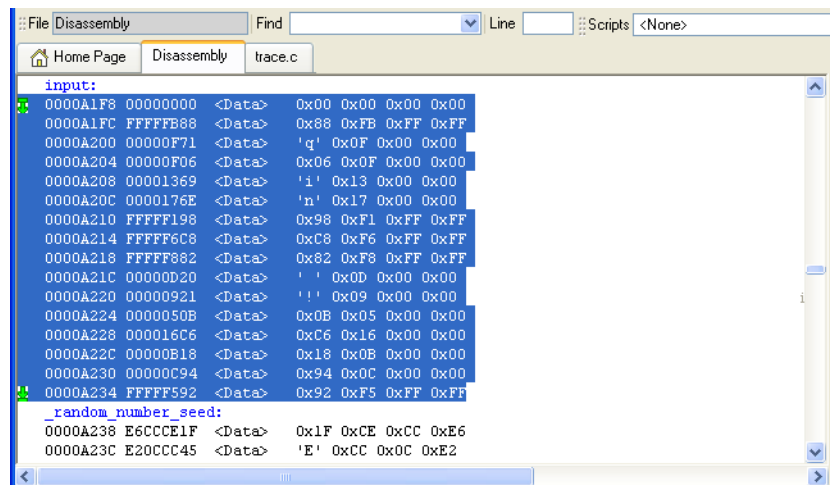

Figure 10-62 Trace range set in the disassembly view
- c. Select **Set Trace Range** from the context menu. An instruction execution trace range is set between addresses 0xA0F0 and 0xA0BF. Figure 10-62 shows an example: